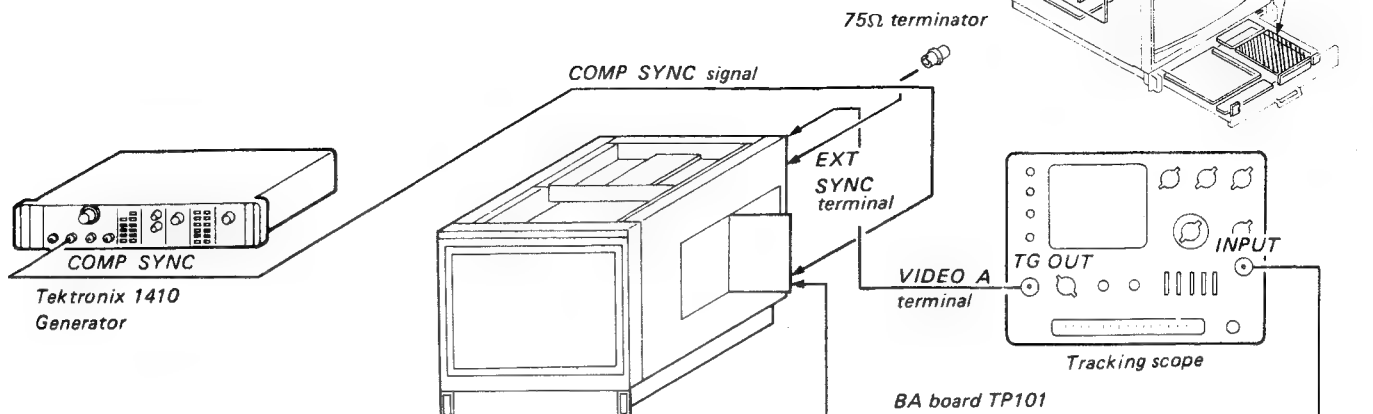

Fig. 4-1
- Complete the connection as shown in Fig 4-1.